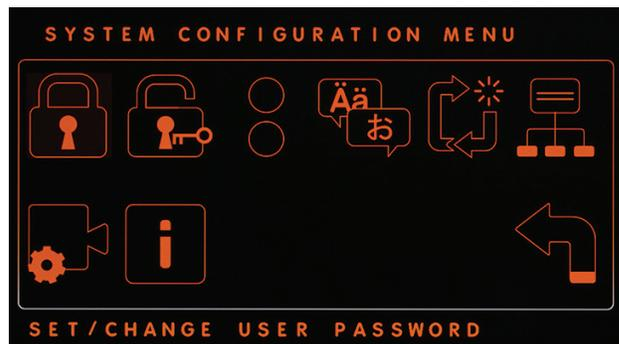

Figure 21. System Configuration Menu
1. From the MAIN MENU, select the **System Configuration** icon to open the SYSTEM CONFIGURATION MENU screen (Figure 21).